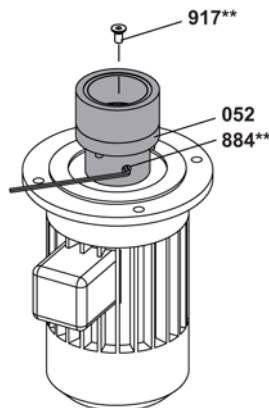

Fig. 1
3. Depending on the motor size loosen the threaded pin **884**** or the countersunk screw **917****, see Fig. 1.